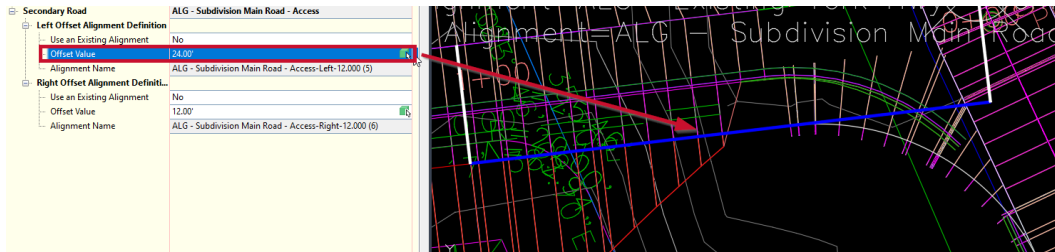

Figure 3.5 – Highlighting of design component / subcomponent
4. Now that we've quickly identified which alignment is our primary versus secondary road geometry, let's go ahead and change the offset value of the **Left Offset Alignment Definition** from 12.00' to 24.00' to double the value, essentially accounting for an extra lane of traffic for turning right versus left in the exiting process of the residential subdivision (refer to *Figure 3.5*). You'll notice that as we update the value in the **Offset Value** box, both the highlighted geometry, along with the curve, have also updated to represent its anticipated location.